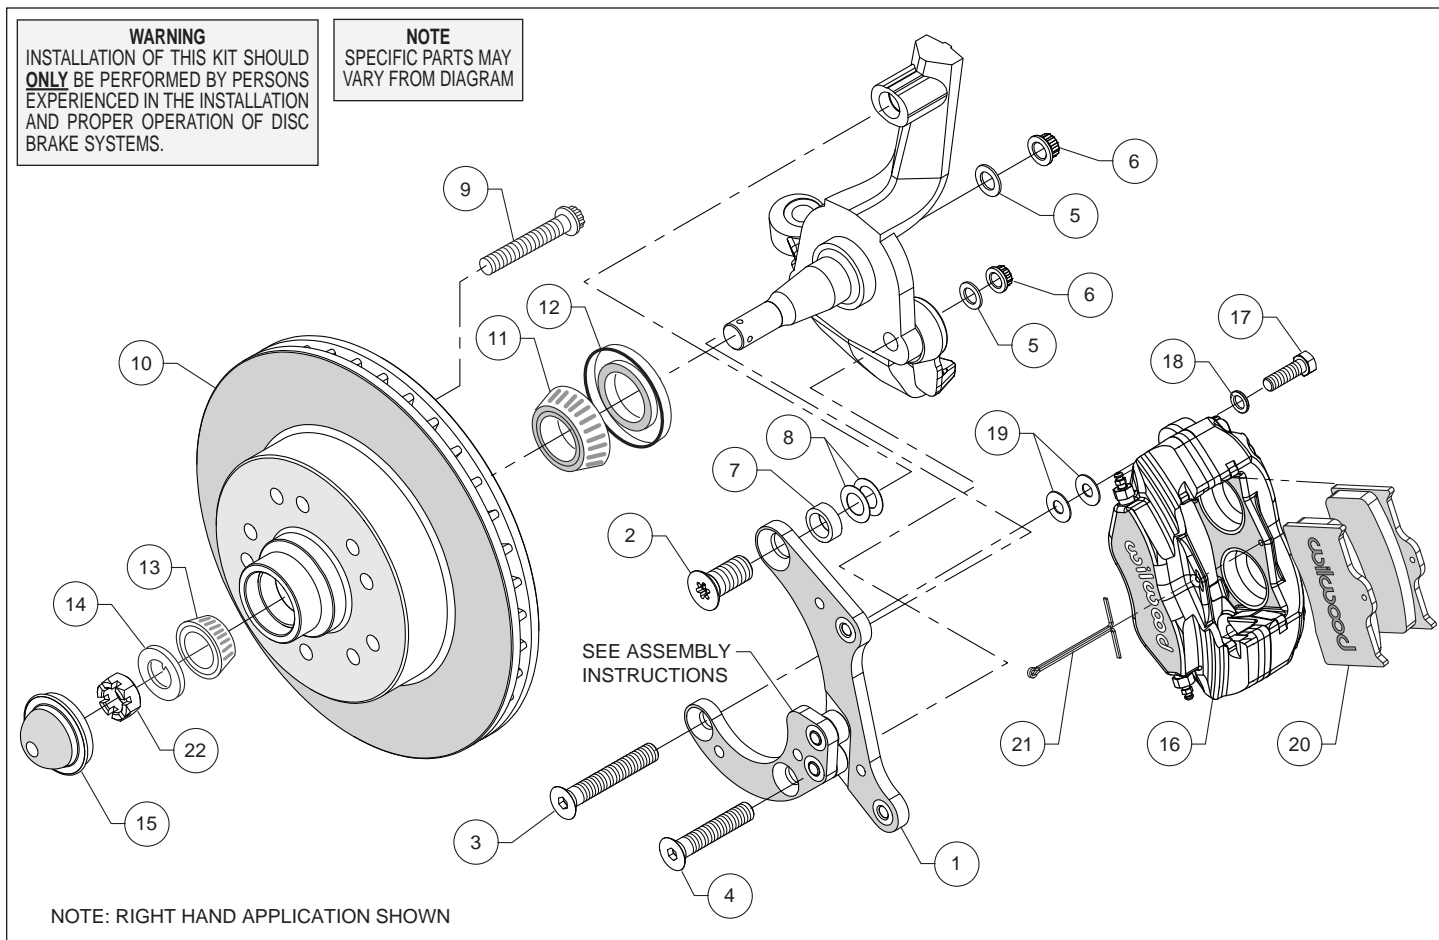
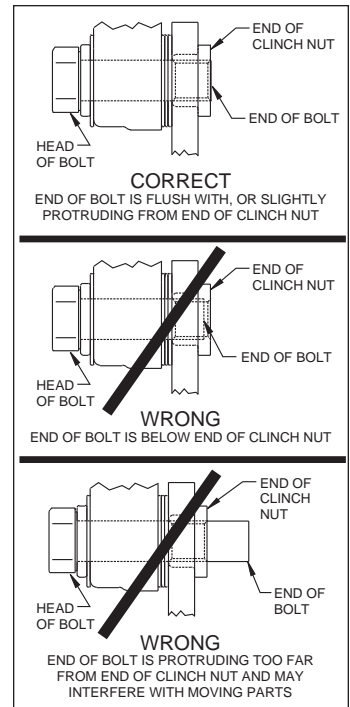

Figure 1. Typical Installation Configuration
Figure 3. Clinch Nut Engagement Diagram
Assembly Instructions (numbers in parenthesis refer to the parts list and Figure 1 on the preceding pages): **CAUTION:** *All mounting bolts must fully engage clinch nuts.* Be sure to check that all bolts are either flush or protruding through flanged side of clinch nut after shimming, Figure 3.
- The caliper bracket (1) should initially be installed with clean, dry threads on the mounting bolts. The bracket has been assembled at the factory for alignment purposes. Loosen the two bolts that secure the brackets together so that the bolts are hand tight only. This will enable the bracket assembly to be adjusted to accommodate various spindle tolerances during assembly. Orient the bracket as shown in Figure 1, and Photo 1. Install using bolt (2) on the upper hole. Place a .377" thick spacer (7) positioned between the bracket and spindle, as shown in Figure 1. Initially place two .010" shims (8) on the upper bolt between the bracket and spindle, Figure 1. Install bolts (3 and 4), washers (5) and nuts (6) in the lower holes, Figure 1. Temporarily tighten the mounting bolts, followed by the two bracket-to-bracket bolts. **NOTE:** *The bracket must fit squarely against the mounting points on the spindle.* Inspect for interference from casting irregularities, machining ridges, burrs, etc. Later, after the bracket alignment has been checked, the bolts will be secured using red *Loctite*® 271.
- Temporarily install the hub/rotor (10) onto the spindle using outer bearing (13), spindle washer (14) and spindle nut (22). Check that the caliper mounting bracket (1) is aligned parallel to the rotor, Photo 4. If not, adjust by adding or subtracting shims (8) on the upper bolt between bracket and spindle, Figure 1. Once the bracket alignment is correct, remove the upper bolt (2), apply red *Loctite*® 271 to the threads and torque to 140 ft-lb. Torque lower lock nuts to 65 ft-lb. Remove one at a time the bolts that secure the two brackets to each other, apply red *Loctite*® 271 to the threads and torque to 40 ft-lb.
- Remove hub/rotor (10) and pack the small outer bearing cone (13) with high temperature disc brake bearing grease and install into the front side of the hub (10), Photo 5. Slide the hub/rotor onto the spindle. Secure using spindle washer (14), and spindle nut (22). Adjust bearings per OEM specifications. Install new cotter pin, Photo 6.
- Press the dust cap (15) into the hub (10), Photo 7. **NOTE:** *Do not hammer center of cap. Install using outer flange only.*
•**NOTE:** Please reference the caution statement at the beginning of the assembly instructions. Mount the caliper (16) onto the caliper mounting bracket (1) using bolts (17) and washers (18), as shown in Figure 1. Initially place two .035" thick shims (19) on each bolt between the caliper and the bracket, Photo 8. Temporarily tighten the mounting bolts and view the rotor (10) through the top opening of the caliper. The rotor should be centered in the caliper, Photo 9. If not, adjust by adding or subtracting shims (19) between the bracket and the caliper. Always use the same amount of shims on each of the two mounting bolts. **NOTE:** The end of each bolt must be flush with or slightly protruding from the head of the clinch nut, as shown in Figure 3. If necessary place spare shims between washer (18) and caliper mounting ear to achieve the proper clinch nut engagement. Once the caliper alignment and clinch nut engagement are correct, remove the bolts one at a time, apply red Loctite® 271 to the threads, and torque to 40 ft-lb.